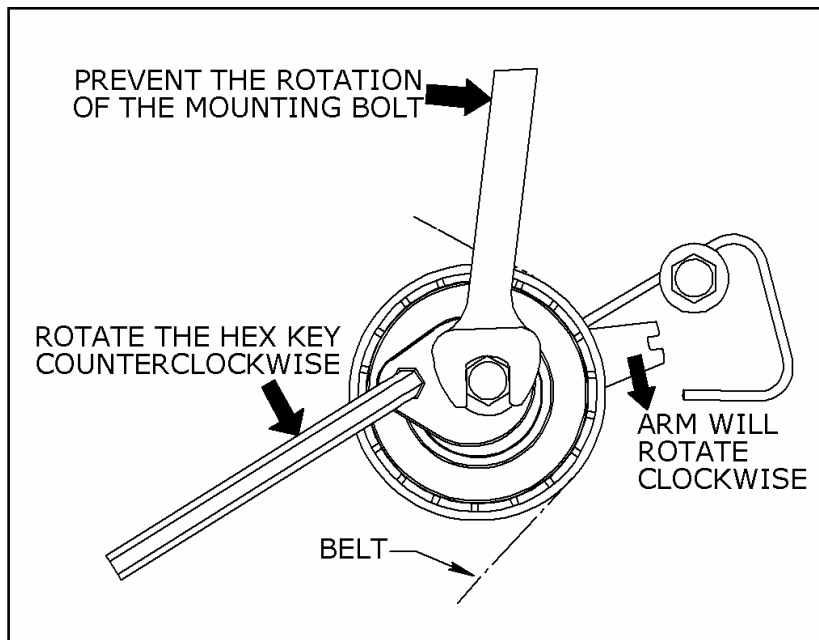

Figure 4: Tensioner Rotation Direction during Installation
8. Rotate the Pivot Shaft **COUNTERCLOCKWISE** with a 6mm Hex Key. Make sure to hold the mounting bolt with a wrench in order to prevent it from turning when rotating the Pivot Shaft. The tensioner assembly will move against the belt and the Arm Pointer will eventually start to move **CLOCKWISE** (Figure 4).